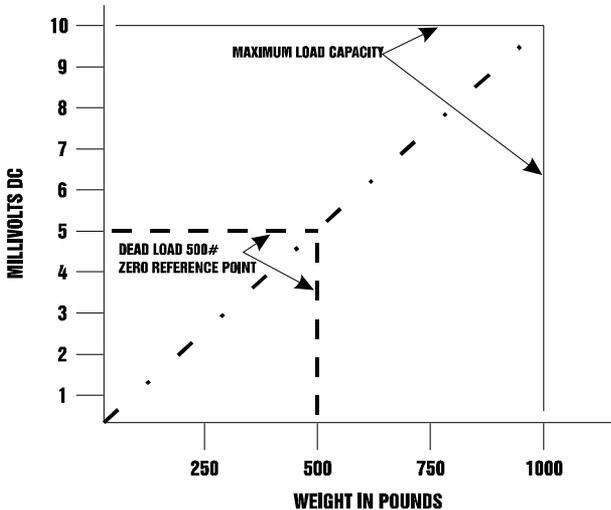

FIG. 5-2 MILLIVOLTS/WEIGHT SCALE
- c. A zero reference point will vary from system to system depending on the “Dead Load” of the vessel. “Dead Load” is the weight of the vessel and appurtenances only, with no product loaded. In our example we will assume the dead load to be 500 pounds. (See Fig. 5-2)